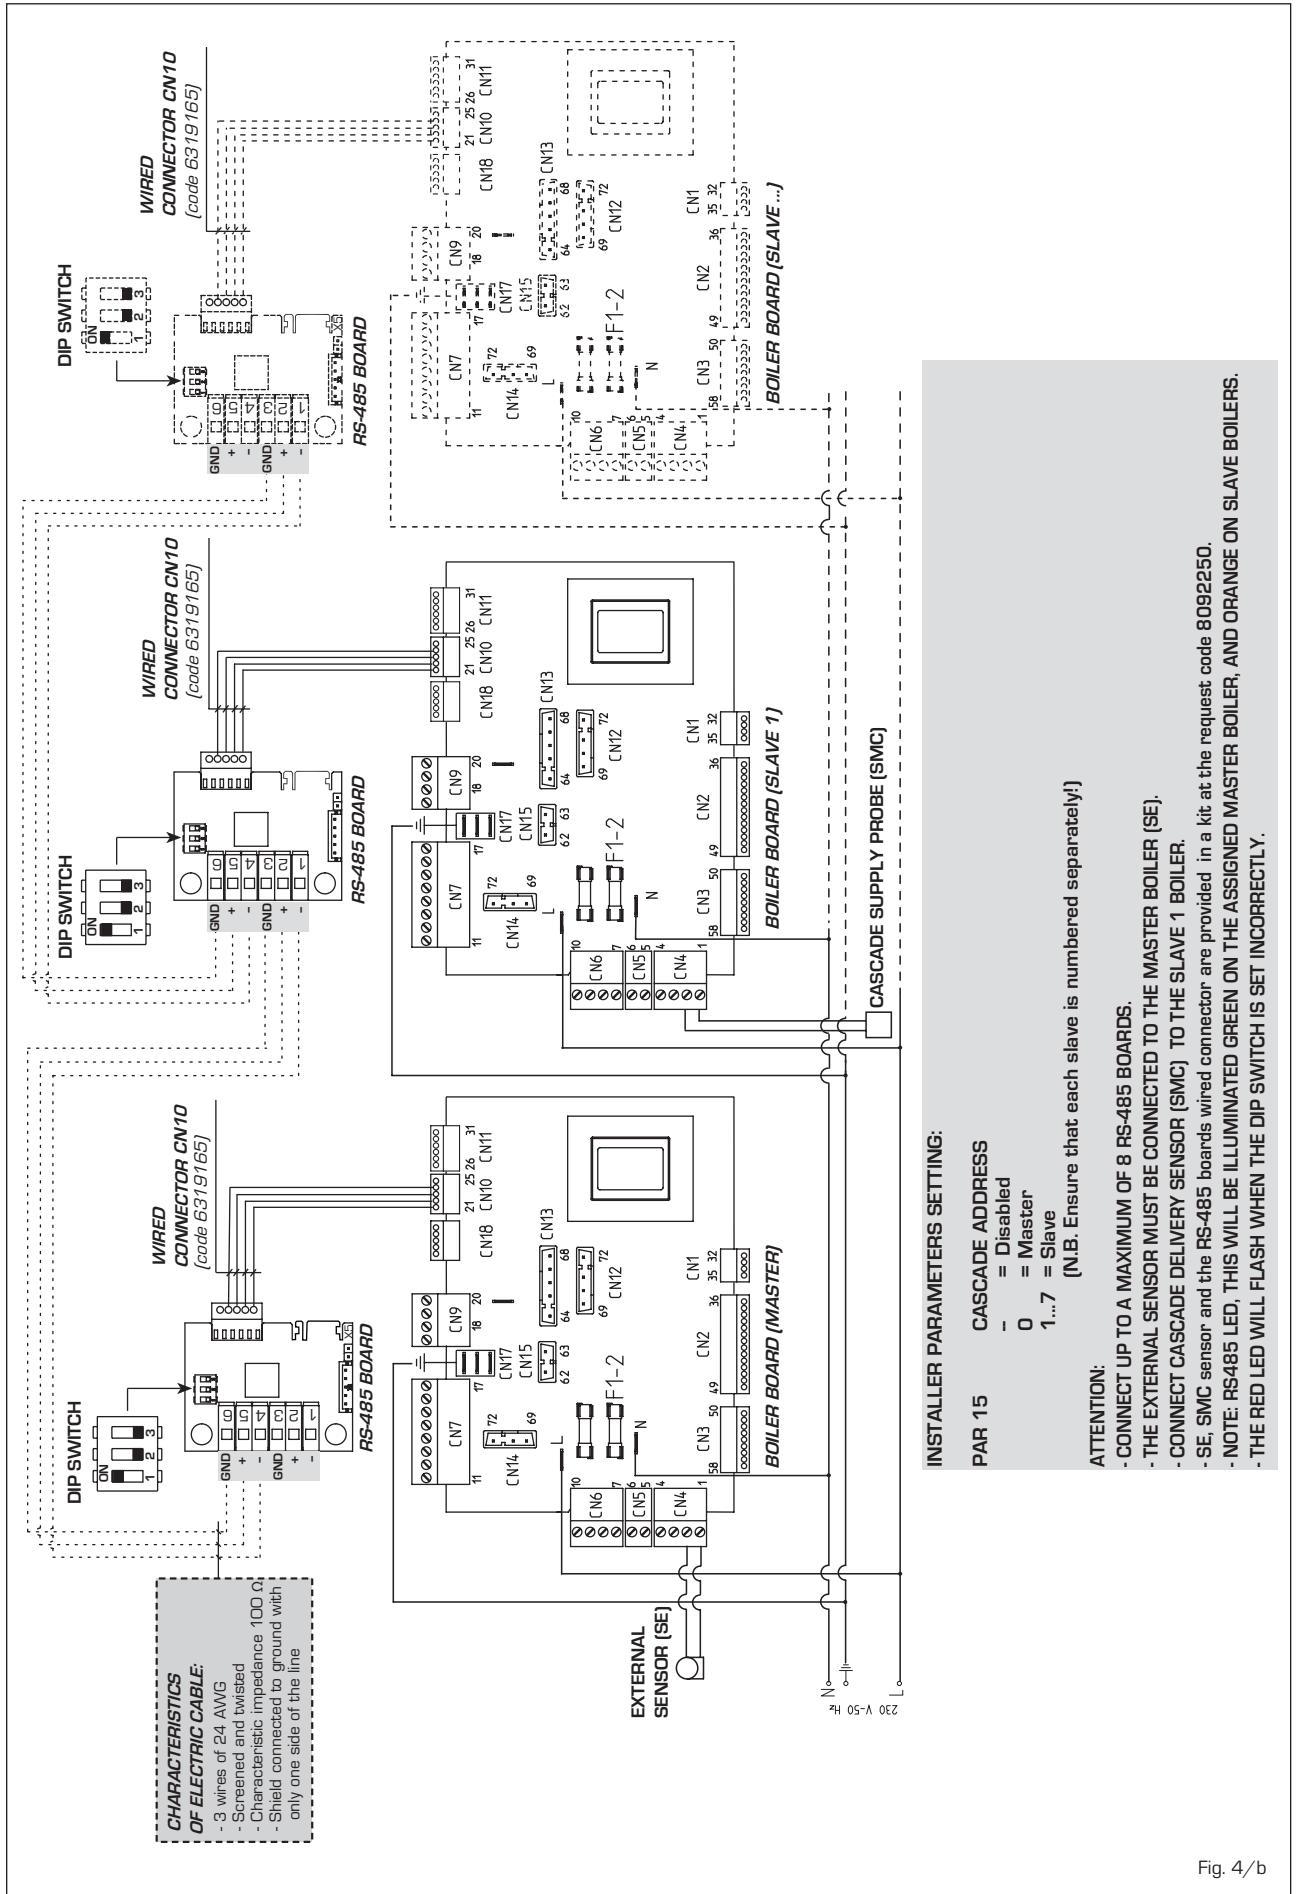

Fig. 4/b
Select the correct mode (CASCADE or MODBUS) positioning by positioning the DIP SWITCH, as shown as figure 4/a
#### CASCADE mode (fig. 4/b)
Electrically connect all boilers in CASCADE mode and set PAR15 accordingly (master or slave). (As shown in Fig. 4 / b).
**MODBUS mode (fig. 4/c)**